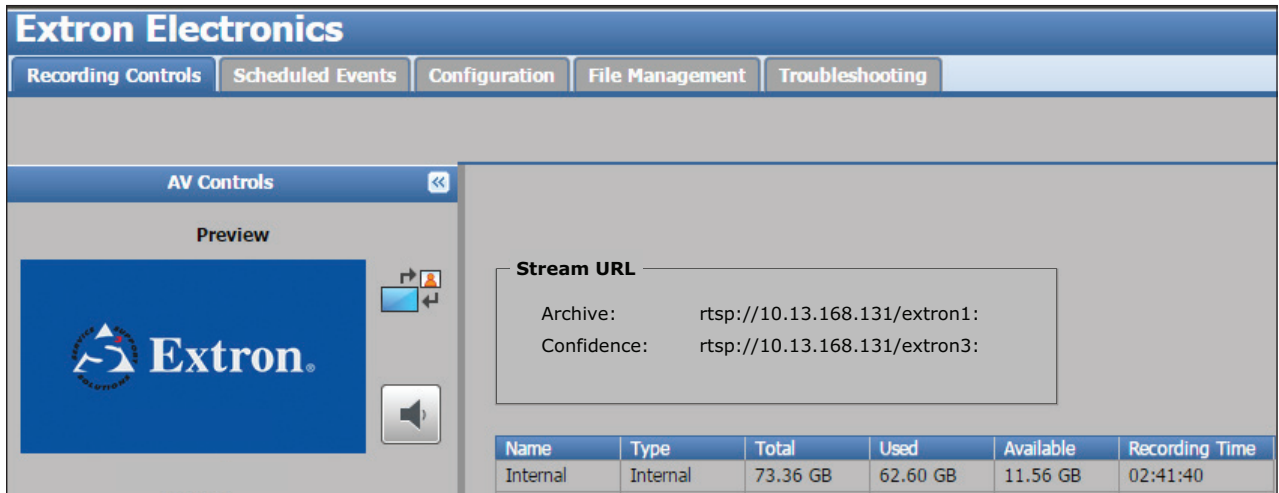

Figure 84. Recording Controls Page
2. The Recording Controls page opens (see figure 84).
6. The **Open URL** dialog opens. In the **Enter an Internet URL to open:** field, enter the stream URL that was noted in step 3 of this procedure (see figure 84 on the previous page).